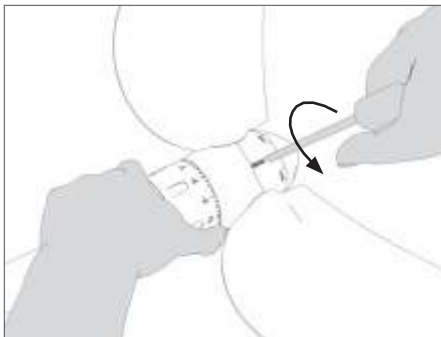

FIG. 42 Unscrewing the grease cap
- Unscrew the cap of the grease hole using an Allen key (**Fig. 42**).